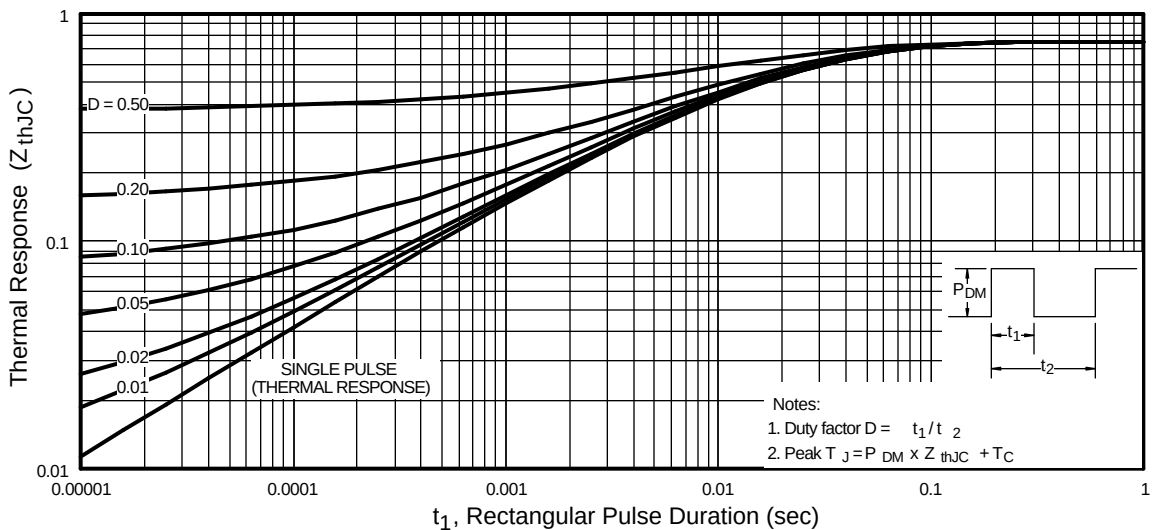

Fig 11. Maximum Effective Transient Thermal Impedance, Junction-to-Case
① Repetitive rating; pulse width limited by max. junction temperature. (See fig. 11)
② Starting $T_J = 25^\circ\text{C}$, $L = 190\mu H$